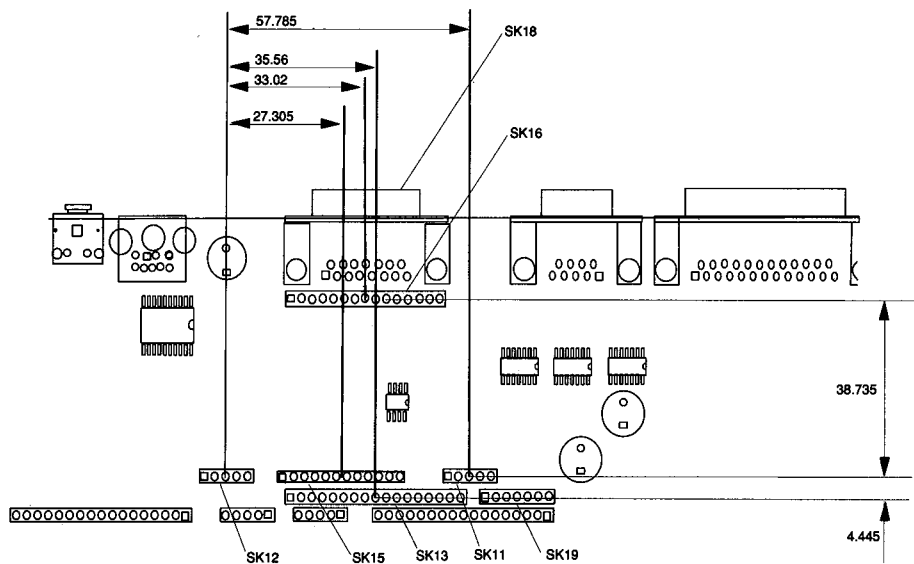

Figure 1: Top view of PCB
- Figure 1 shows a view looking down on the main PCB giving the location of all the sockets.